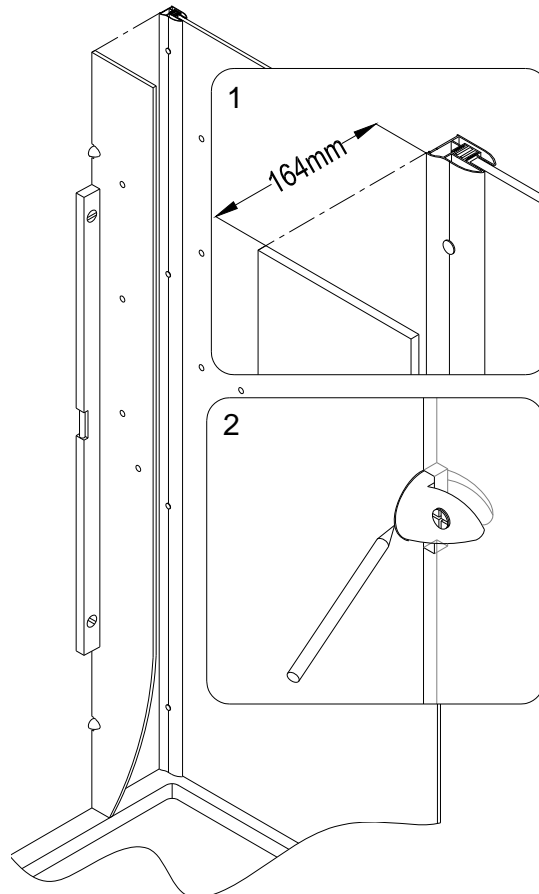
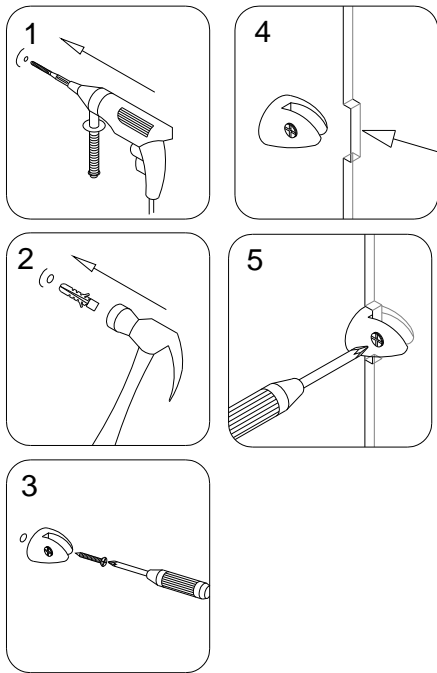
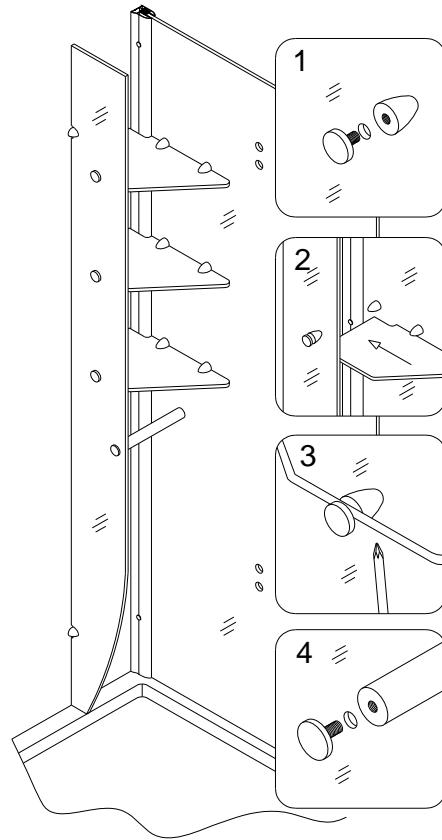
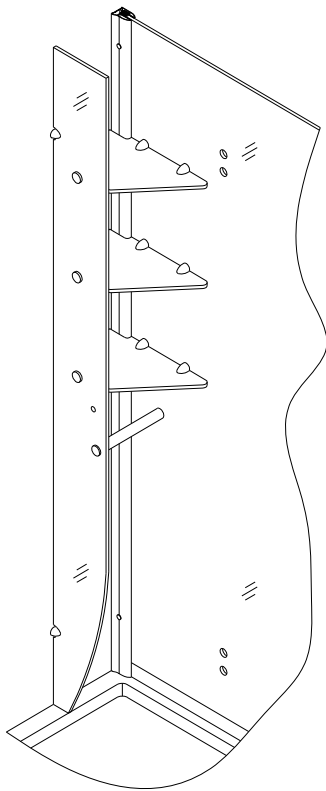

Fig 12
Fig 13
Fig 14
Fig 15
11. Refer to Fig 14 to mark the drill holes for the **Glass brackets (without nut) (30)**. Make sure the mark is clear and visible. Drill the holes and install **Wall anchors (35)** in the marks that you created. Using **Flat head screws ST4.2x25 (36)** to attach the **Glass brackets (without nut) (30)** to the wall. See Fig 12 and Fig13 for details.
12. Install the **Glass brackets (with nut) (31)** onto the **Stationary glass 3 (05)** and the **Stationary glass (26)**. Install the **Glass shelf (28)** and the **Towel bar (34)** to the stationary glasses. See Fig 14 and Fig 15 for details.